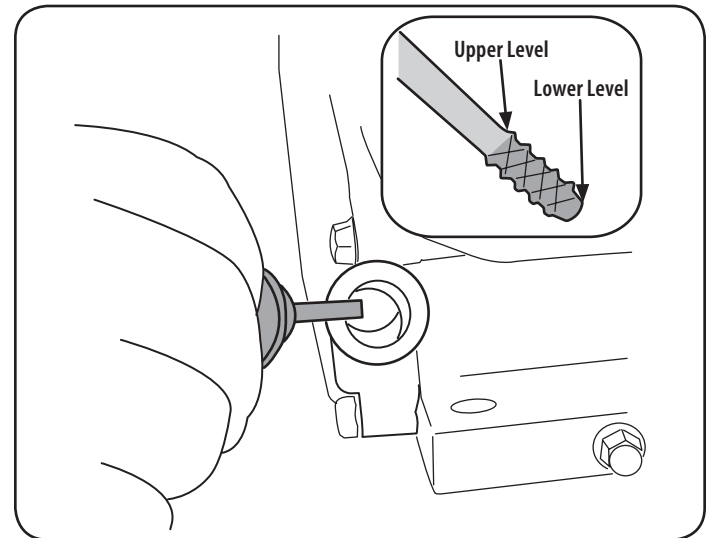

Figure 12
3. On some models the oil filler cap/dipstick can be accessed at the rear of the snow blower. See Figure 12.